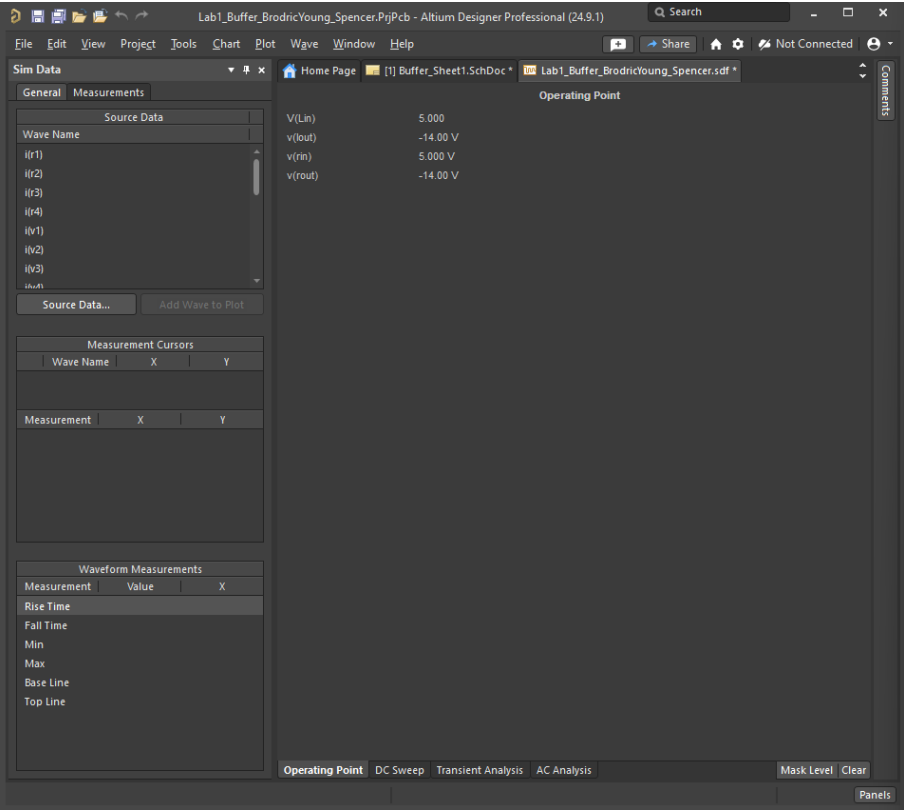
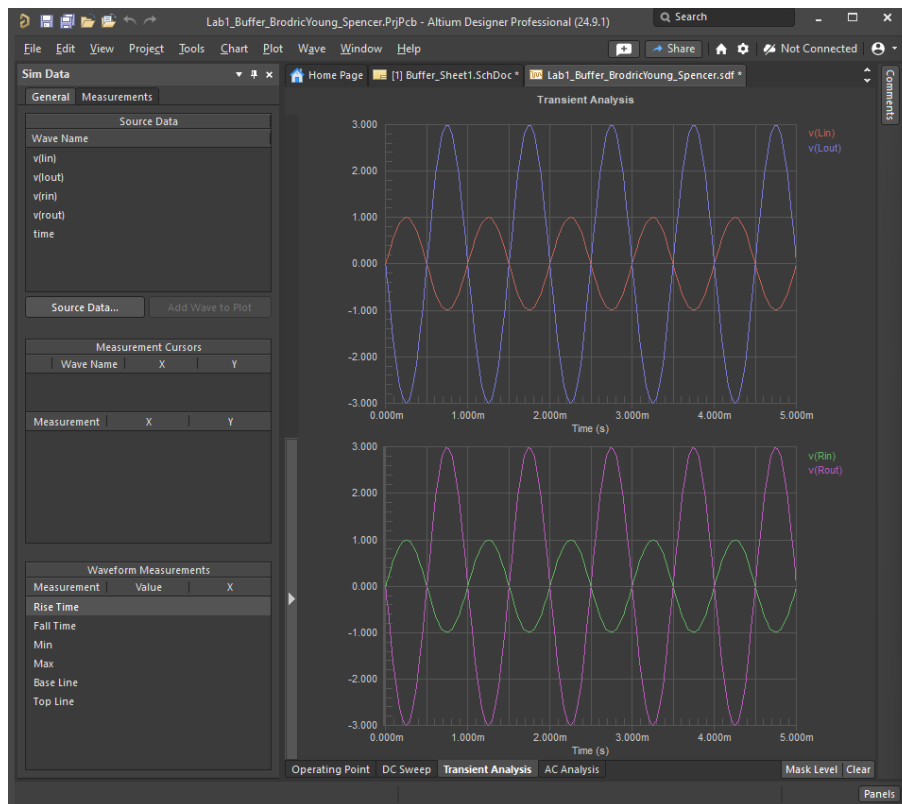

Figure 2, Operating Points
Figure 3, Transient Analysis Graph
4. We set up a simulation for our schematic by first confirming the circuit was valid and then by telling it what we wanted to measure in the “Operating Point” tab and also the graph of those measurements in the “Transient Analysis” tab. Both the operating points and graph can be seen below as “Figure 2” and “Figure 3, Transient Analysis Graph”.